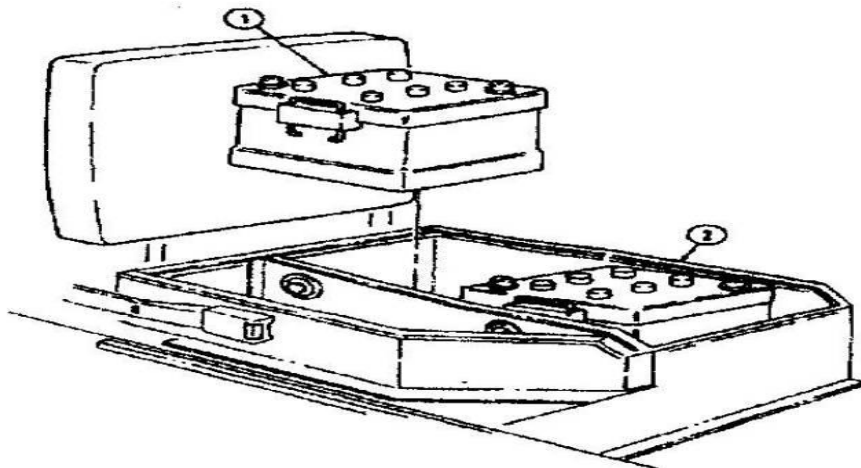

Figure 68
(4) Install two batteries (1) in battery box (2) as shown in **Figure 68**.